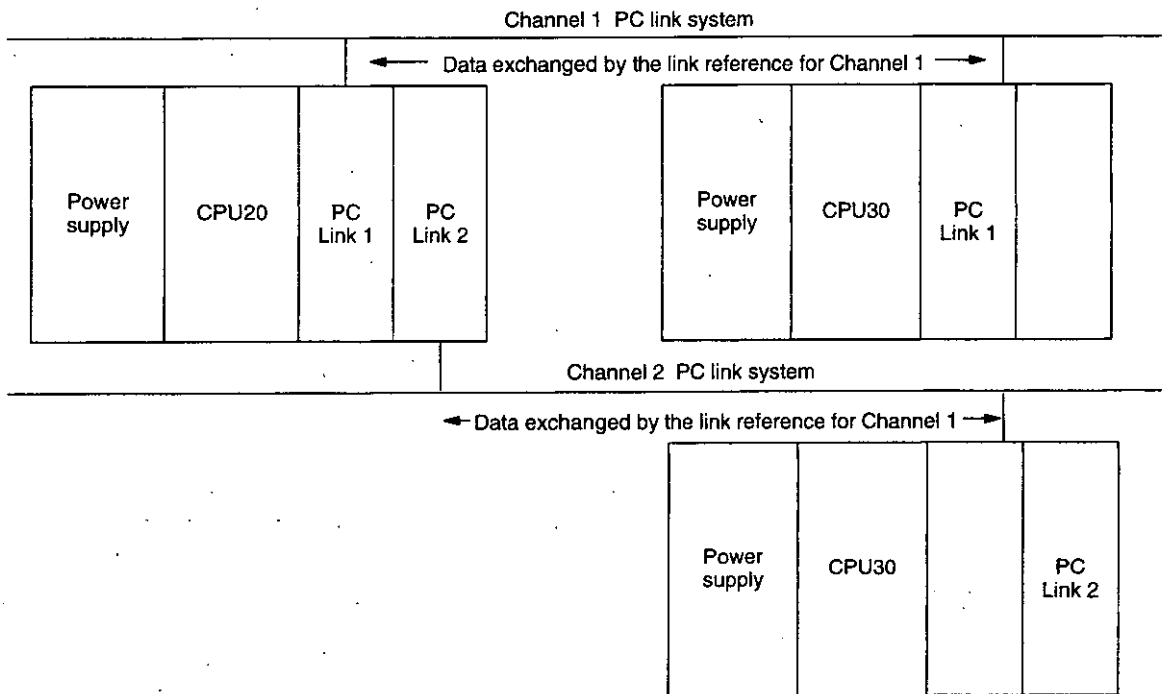

Figure 2.19 PC Link Communications System
- 1) With the GL 120 or GL130, a PC Link Module (model no.: JAMSC-120NFB23100) can be used to create a PC Link system (see *Figure 2.19*) for exchanging data with all linked PLCs. The references for these PC Link communications are called "link references."